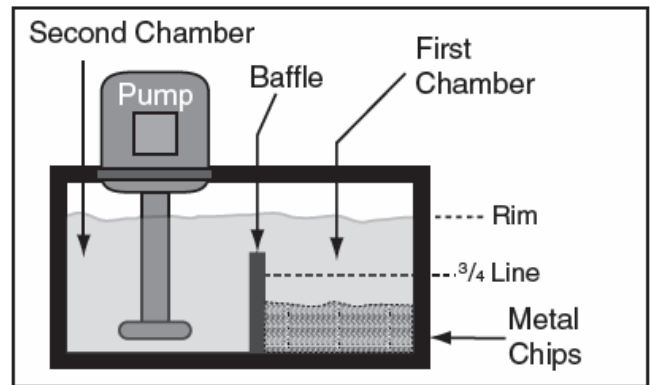

Figure 59
4. Using a wooden stick, check the level of the metal chips in the first chamber (see Figure 59). If the chips are $\frac{3}{4}$ the height of the baffle, then remove the chips.